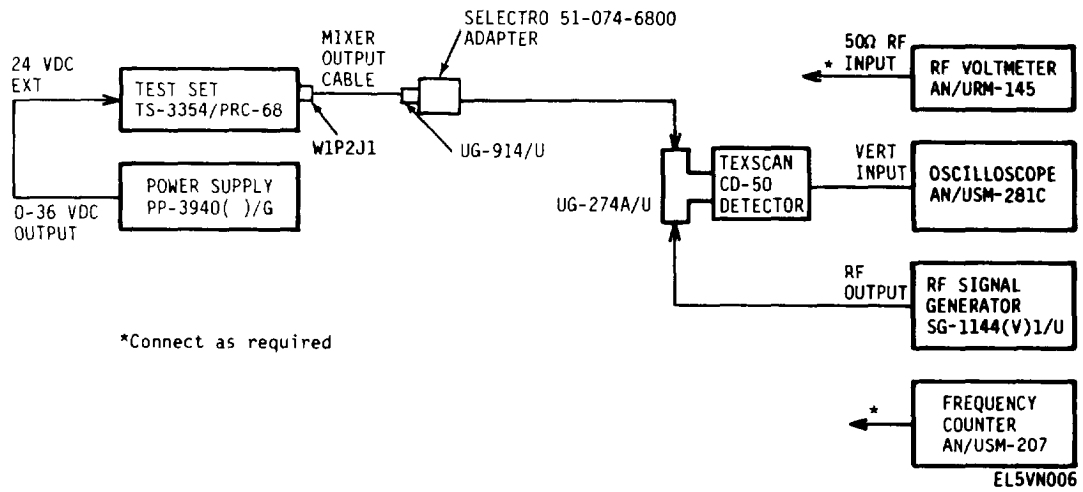

Figure 5-6. Rf Signal Generator Output Frequency and Level Test Setup
- (1) Frequency Counter AN/USM-207
- (2) RF Voltmeter AN/URM-145
- (3) Power Supply PP-3940/G
- (4) Oscilloscope AN/USM-281C
- (5) Signal Generator SG-1144(V)1 /U
- (6) Adapter UG-914/U
- (7) Detector, Texscan CD-50
b. *Test Connections and Conditions.* Connect equipment as shown in figure 5-6. Disconnect mixer output cable attenuator and connect to UG-914/U.